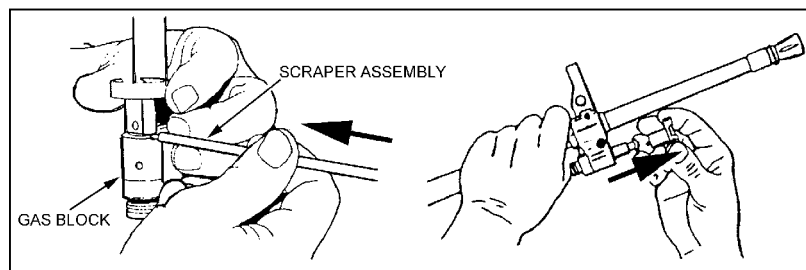

Figure 1-13. Removal of the collar.
(2) Raise the feed cover.
(3) To remove the gas regulator and collar, rotate the gas collar pin out of the notch. Place the tip of the scraper with the concave side facing the pin of the collar inside the notch. (Be careful not to use too much pressure, so as not to break the tip of the scraper.) Rotate the collar counterclockwise over the concave portion of the tip, which is on the scraper, and past the notch until the collar slides off (Figure 1-13). Deficiencies that are not correctable by the operator must be reported to the squad leader or NCOIC.